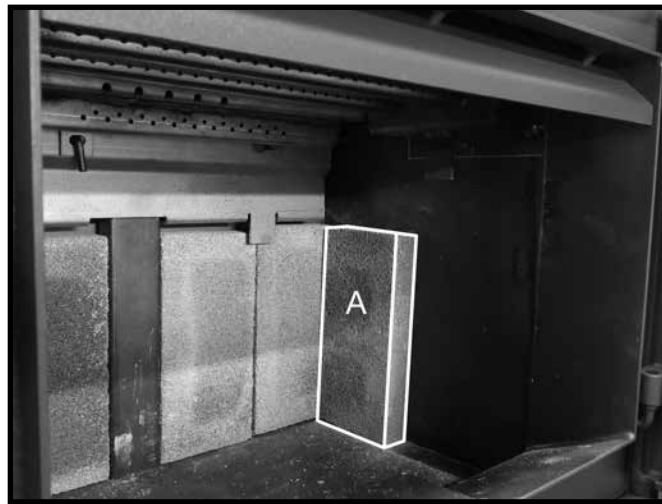

Figure 25: 1st side wall brick in place.
4. For the side walls: Stand an "A" firebrick against the side wall and up against the rear wall firebrick (Figure 25).